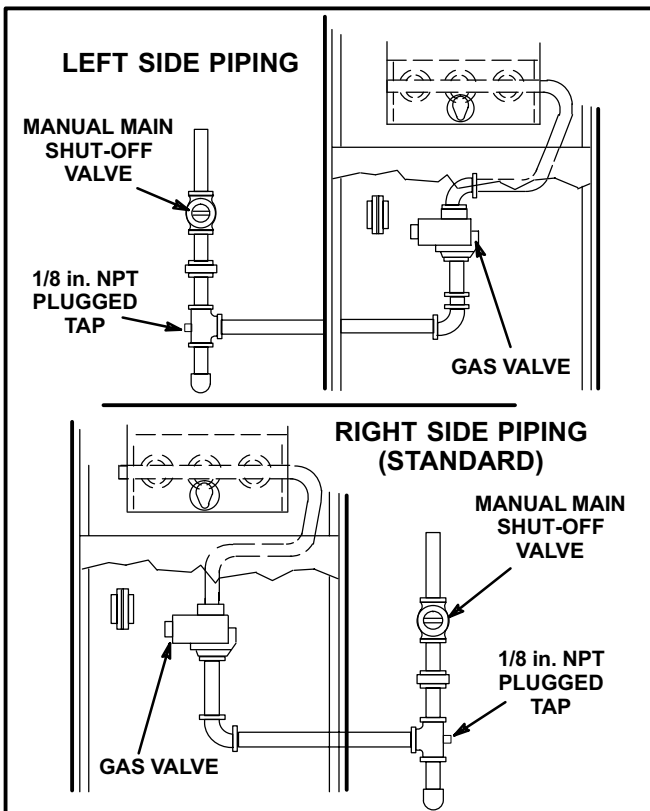

FIGURE 23
- 1 - Gas piping may be routed into the unit through either the left- or right-hand side. Supply piping enters into the gas valve from the bottom of the valve as shown in figure 23.
- 3 - The gas piping must not run in or through air ducts, clothes chutes, gas vents or chimneys, dumb waiters, or elevator shafts. Center gas line through piping hole. Gas line should not touch side of unit. When left-hand gas plumbing is required, gas line should be installed in the lower half of knockout so that piping will clear combustion air blower. See figure 23.